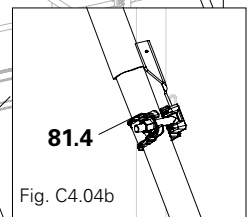

Fig. C4.04b
3. Loosen the bottom coupling (**81.4**) and extend the multi brace until the required support angle of $\alpha \leq 60^\circ$ has been reached. Tighten the bottom coupling. (Fig. C4.04b)